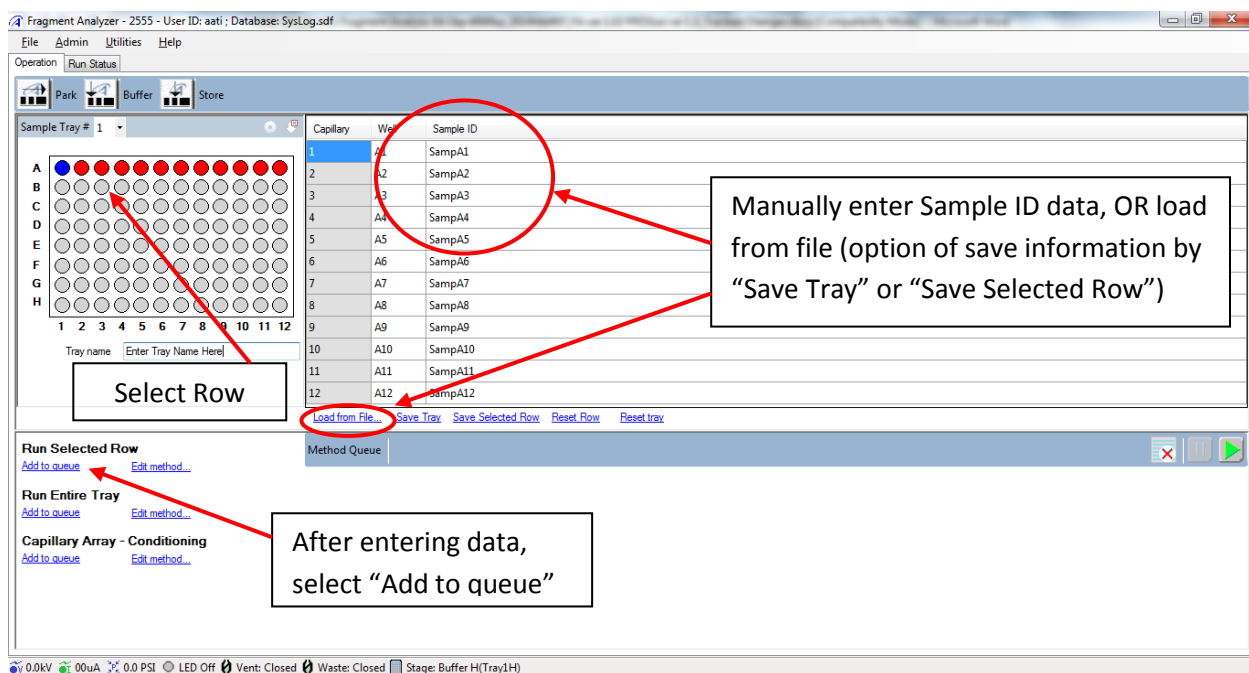

Figure 3. Main Screen showing selection of sample row and entering sample information
1. To set up an experiment, from the Main Menu of the *Fragment Analyzer*[™] instrument control software, select the **Operation** tab (Figure 3). Select the sample tray location to be analyzed (1, 2, or 3) by left clicking the **Sample Tray #** dropdown or by clicking the appropriate sample plate tab (alternate plate view) and choosing the appropriate location. 96-Capillary Systems: Note that Sample 3 is typically assigned to the Capillary Storage Solution.
2. Left click a well of the desired sample plate row with the mouse. The selected row will be highlighted in the plate map (e.g., Row A in Figure 3). Enter the sample name if desired into the respective **Sample ID** cell by left clicking the cell and typing in the name. Alternatively,